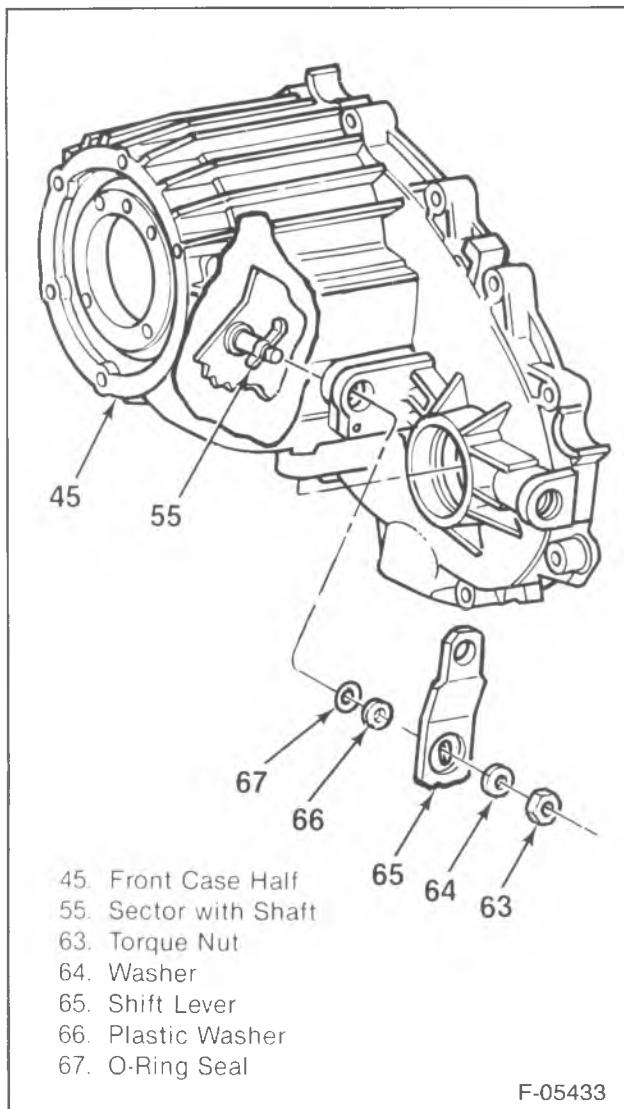

Figure 15—Sector with Shaft
- Bolts (3) to 19 N·m (14 ft. lbs.).
- 5. Sector with shaft (55) into the front case half (45).
- 6. Shift lever O-ring (67), plastic washer (66), shift lever (65), washer (64), and nut (63) to the front case half (figure 15).